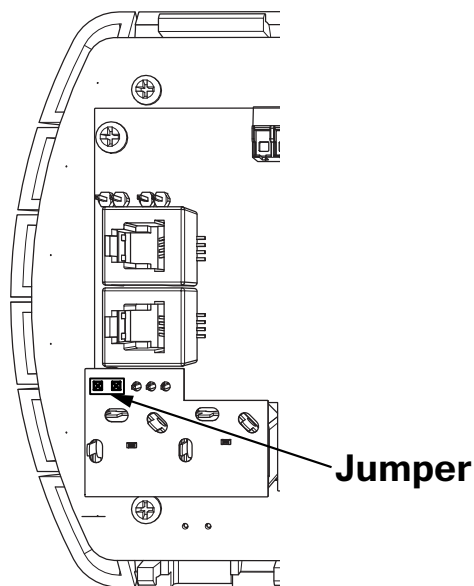

Figure 19 Bed cord input terminal CN3
- If two bed cords are being used, close the jumper shown in Figure 19.
- If only one bed cord is being used, insert a 0.25 inch dummy plug in the unused jack and close the jumper shown in Figure 19.
- If no bed cords are being used, open the jumper shown in Figure 19.